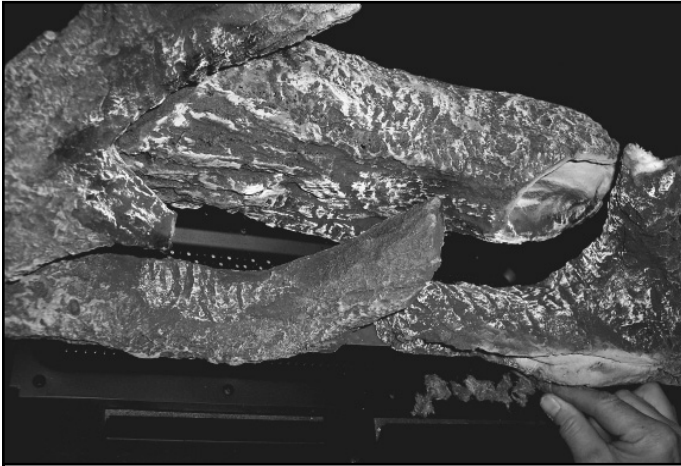

Figure 14.6 Placement of Rockwool
- Place a small amount of 1/2 in. (13 mm) diameter pieces (dime-size) of rockwool on the burner pan so that the rockwool touches but does not cover the holes in the burner pan. This will provide the “glowing embers” look. It is not necessary to use the entire bag. Save the remaining rockwool for future use. See Figure 14.6.